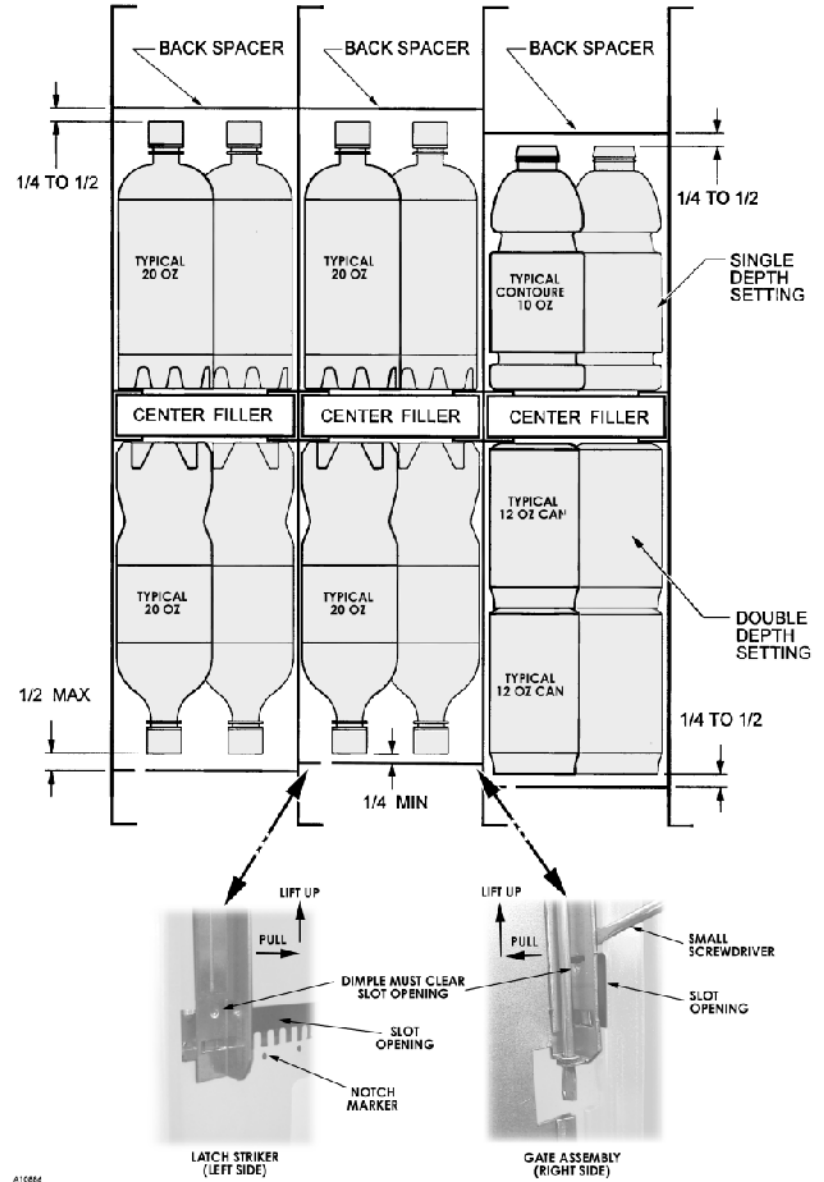

Figure 10. Column Depth
3. Product container bottoms must face towards the center of the rack as shown. Refer to Figure 10.
8. Add five (5) rows of products in each column to check product spacing. Products should have not more than $\frac{1}{4}$ to $\frac{1}{2}$ inches of free space at the front or back of the columns as shown on Figure 10 on page 1. Adjust the back spacer, latch striker or gate assembly to achieve the required dimension. The Vend Rack has been factory set for most 20-oz. bottles or 12-oz. cans. If vending 16.9-oz. water bottles, remove Filler (4211816) from the back of the inner door and install it in the Vend Rack. Follow instructions on Filler decal.
Lift the back spacer and reposition it in the adjustment slots. Use notch markers as reference points to align it vertically. See Figure 10 on page 1.
Pull and lift up on the lower end of gate assembly (or latch striker). Use a small screwdriver as a wedge to gently pry the dimple away from the slot opening. See Figure 10 on page 1. Reposition them in the adjustment slots. Use notch markers as reference points to align it vertically.